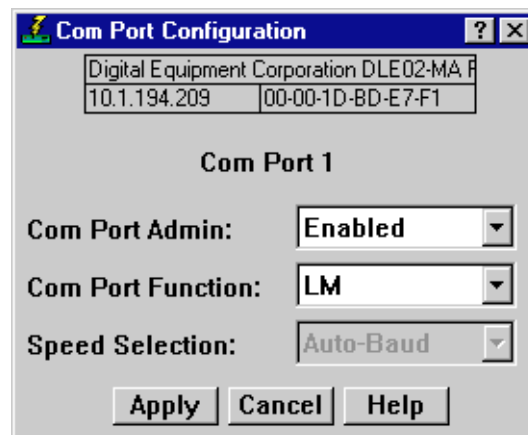

Figure 2-18. The COM Port Configuration Window
You can use the COM Port Configuration window (Figure 2-18) to specify the functions that will be performed by the RS232 COM port on the front panel of the monitored MultiSwitch 700 module.
2. Click on **COM Port Configuration** and then right to select **Port 1**. The COM Port Configuration window, Figure 2-18, opens.